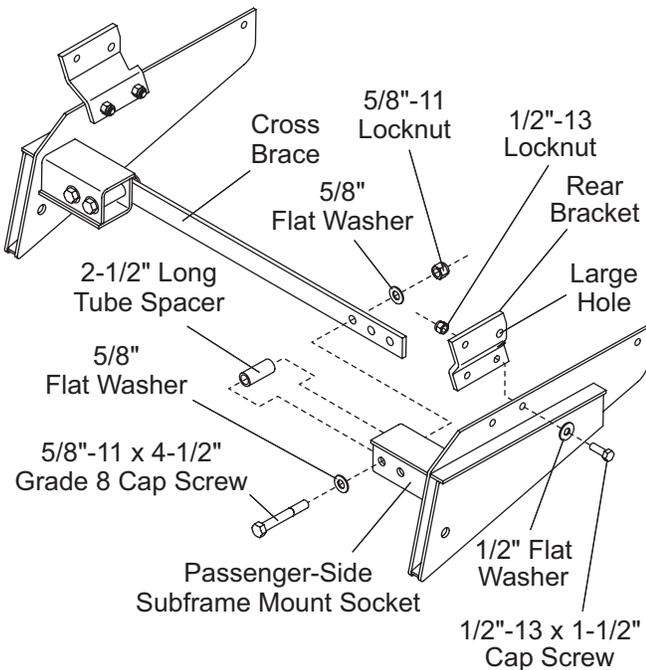

Figure 1
1. Position cross brace in front of passenger-side subframe mount socket at its furthest position (narrow configuration) and align holes. (See Figure 1.)